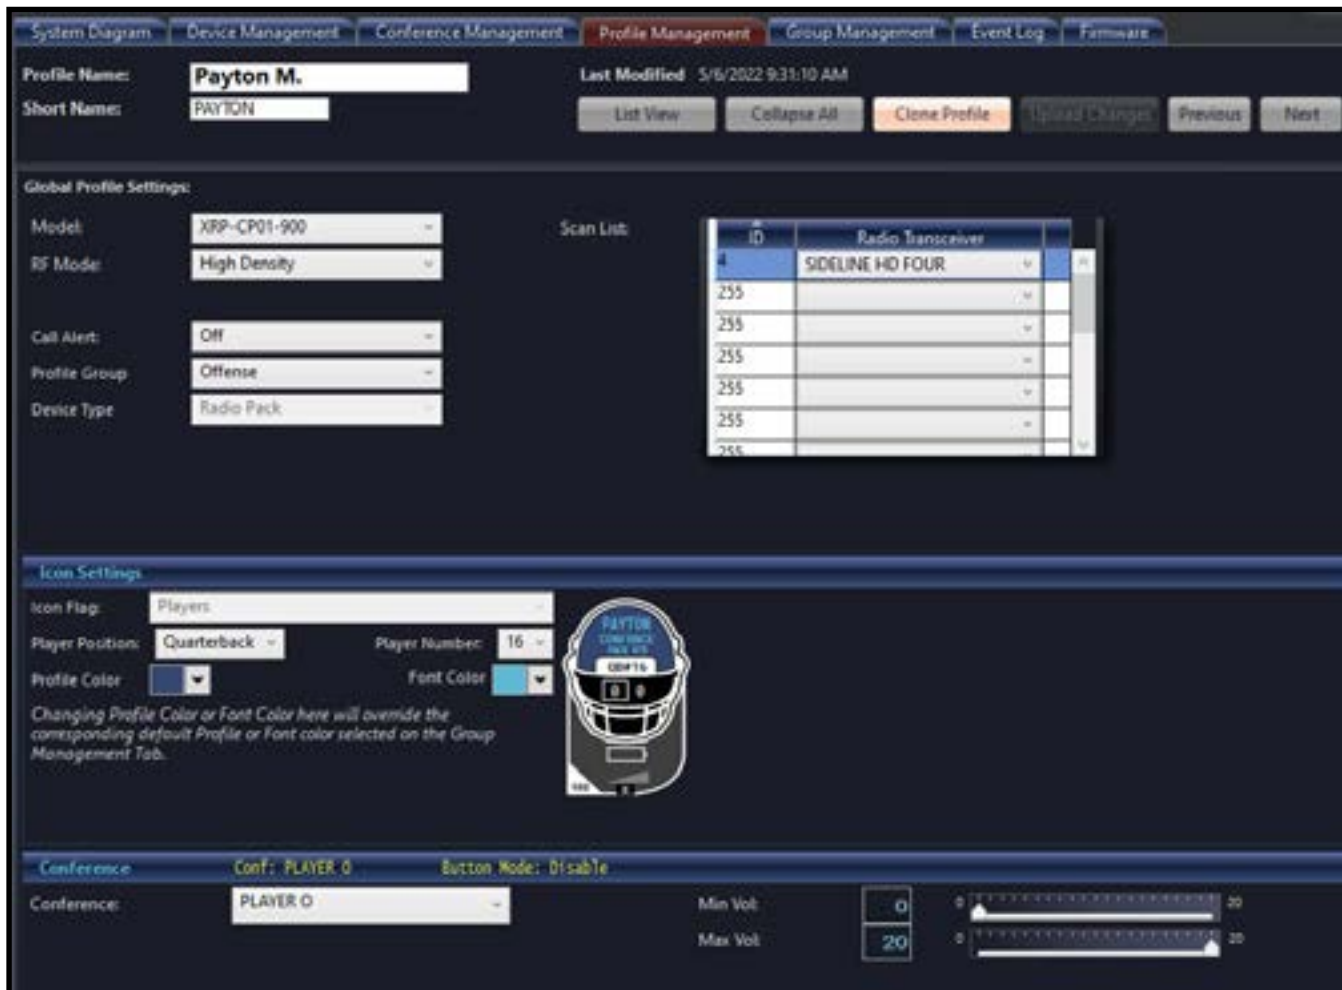

Figure 150: X-System Player Profile Example
3. Customize the Player Position and Number in the Icon Settings. See Figure 150 for an example of an X-System Player Profile.